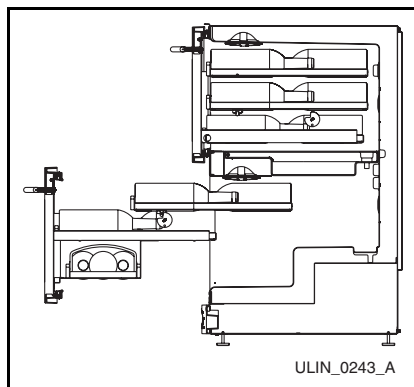

Figure 7
1. The bottom drawer should be stocked first. Open the drawer, and beginning at the back of the lowest rack work forward, staggering the bottles as shown (**Figure 7**).